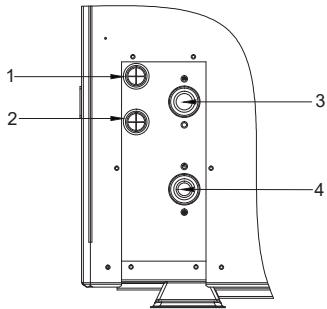

Figure 6-3: Wiring Holes for 4kW model
4. Insert the power cable through the High voltage wire slot incorporated into the body of the heat pump (located close to the Flow and return. Refer to Figures 6-3, 6-4, 6-5 and Table 6-2).